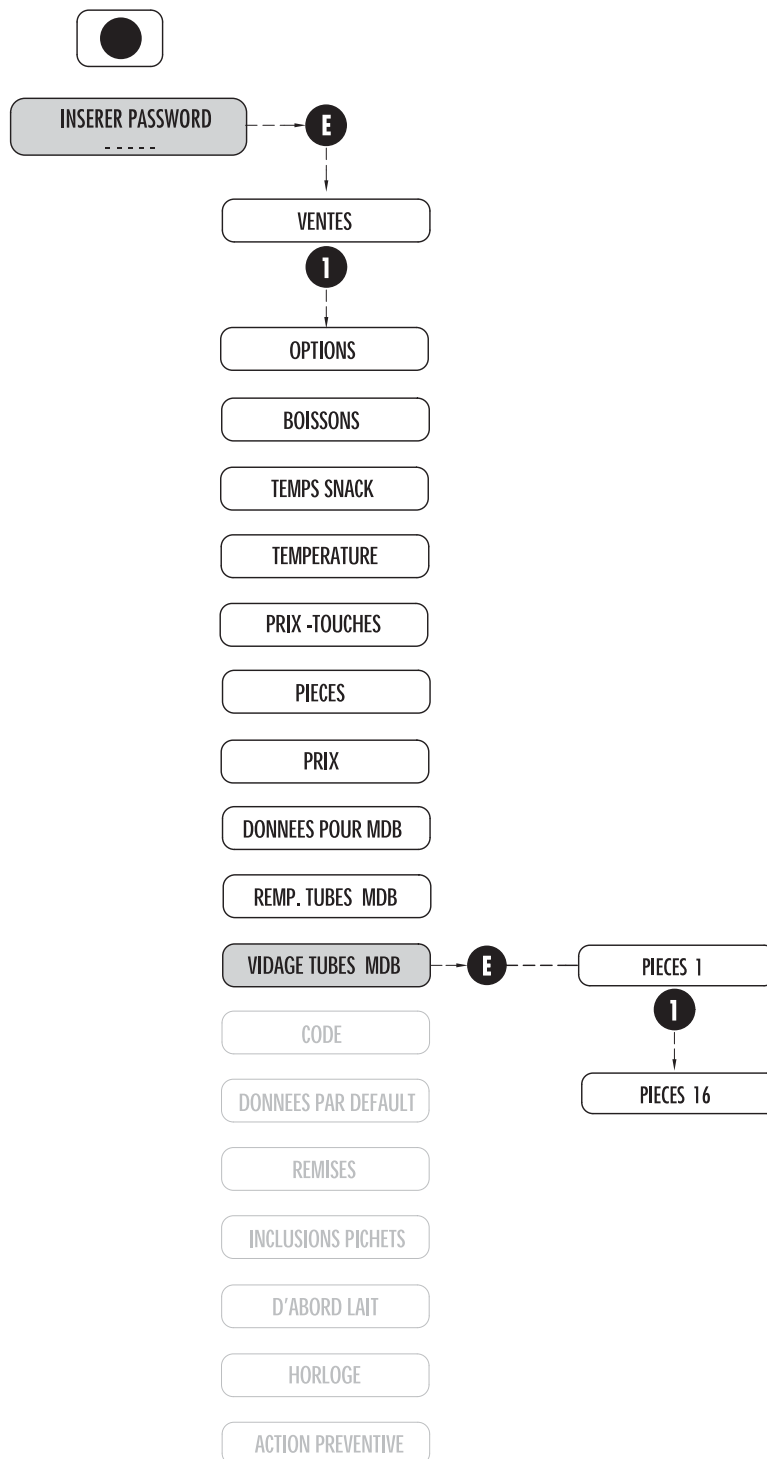

Fig. 7.14
7.2.11 VIDAGE TUBES MDB (Fig. 7.14)